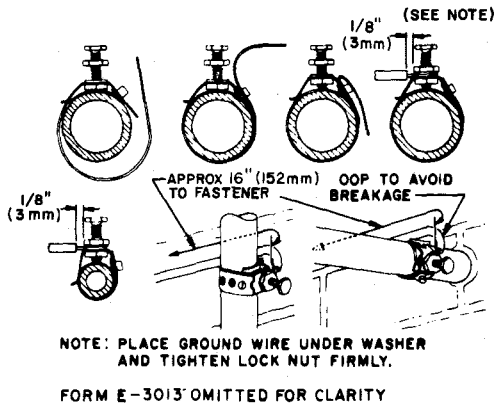

Fig. 59—Installing B Station Ground Clamp
- (1) Clean pipe thoroughly.
- (2) Back off locknut to head of set screw.
- (3) Back off set screw until it does not protrude through the soldered nut.
- (4) Place Form E-3013B on strap. Bend strap around pipe and place strap on the rivet using hole in strap that provides the least slack.
- (5) Bend strap sharply at next hole beyond rivet.
- (6) Tighten set screw. If the set screw is tightened excessively, the clamp will break or set screw will slip off center and copper pipe may be dented. When fastening clamp to copper pipe, avoid making a dent in the pipe that is more than barely perceptible.
(7) Place ground wire under the washer and tighten locknut (Fig. 59).